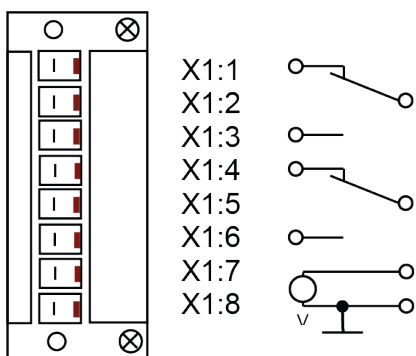

Figure 4: Connections of the 8-pin connector
- If required, interconnection of the relay output with the test set control (see Figure 4)
The relay contact output is connected via an 8-pin plug component (PC4/8ST-7,62). The pin connection for this plug is shown in Figure 4.
A maximum voltage level for $\hat{U}/\sqrt{2}$ or U DC can be set to trigger the relay switch U_{max} on the rear panel. If the voltage $\hat{U}/\sqrt{2}$ or U DC exceeds the set limit, the contact between X1:5 and X1:6 is closed (see Figure 4).
The dU/dt mode defines the action taken after a breakdown has occurred. With "OFF" selected, nothing will be done. With "COUNTER" selected, the number of breakdowns is displayed. This number can be set to zero by "RESULT" and "CLEAR". With "RELAY" selected, a breakdown will switch the dU/dt relay (see Figure 4).
"VERY HIGH". If this deviation exceeds the limit and the "RELAY" mode is selected, the relay contact X1:1 – X1:2 is opened (see Figure 4).
In this setting, a maximum voltage change per time [kV/ms] can be set to detect single voltage dips. In case a single breakdown or flashover occurs and the dU/dt value is exceeded, the relay contact X1:1 – X1:2 is opened (see Figure 4).
The recorder output terminal (x1:7 and x1:8, see Figure 4) may optionally be connected to a paper recorder or other device to provide a graph of the voltage magnitude. The voltage output gives 0 to 10 V DC and corresponds linearly to the displayed (selected) voltage. If, e.g., the "REC" level is set to 100 kV and the display shows 65 kV, the voltage output equals 6.5 V. The REC output value is altered together with the selection of the displayed voltage.